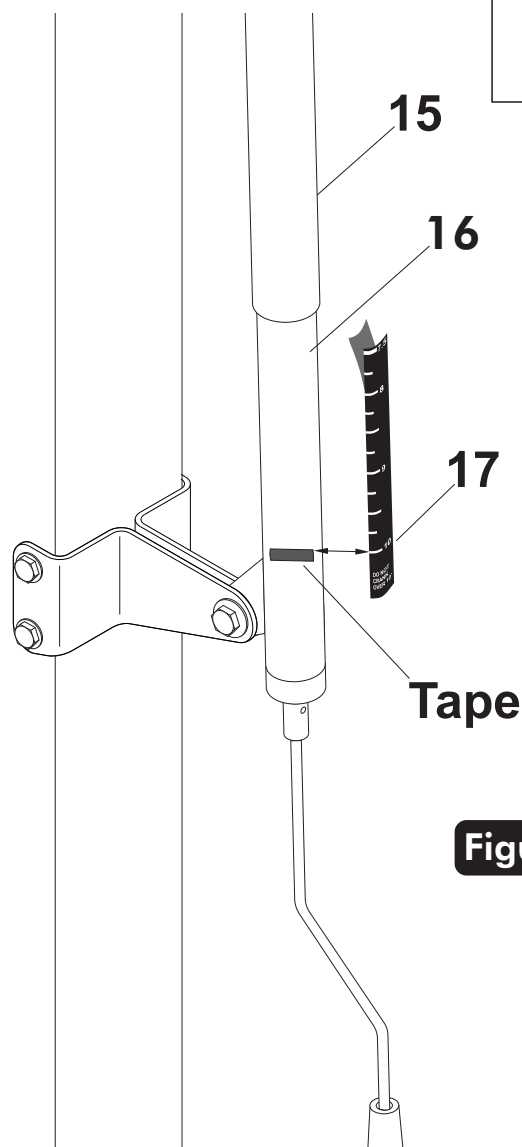

Figure 17
34. Remove the adhesive backing from the Height Decal (#17). Next, carefully align and stick decal to backside of steel actuator (#16) starting at the **10 ft mark first**. Be sure to keep the height decal straight and rub out all air bubbles. See **Figure 17**.